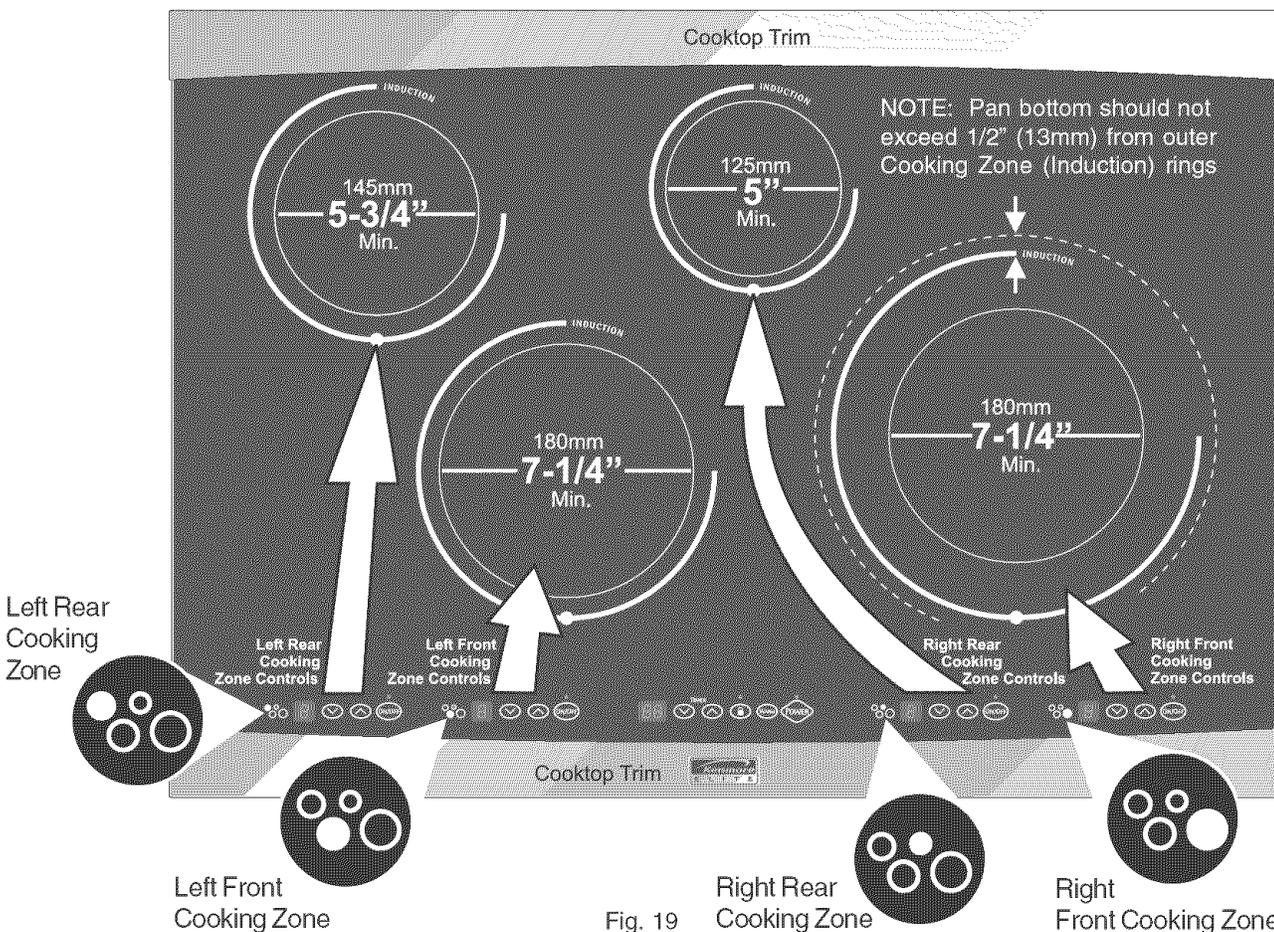

Fig. 19
USE THE CORRECT SIZE COOKWARE - The 4 Cooking Zones available on the Induction Cooktop require a **MINIMUM** pan size to be used at each location (Fig. 19). The inner ring of each Cooking Zone is your guide to the correct **MINIMUM** pan size. The pan bottom must **FULLY** cover the inner ring for proper cooking to occur.
The thicker outer ring at each Cooking Zone is helpful to determine the pan **MAXIMUM** size. After centering the cookware of the cooktop, make sure the cookware does not extend more than 1/2" beyond the thicker line on the Cooking Zone (See example in Fig. 19). The pan must make **FULL** contact on the glass surface without the bottom of the pan touching the metal cooktop trims (Shown in Fig. 19).
- Pan does not meet the minimum size required for the Cooking Zone used (See Fig. 19).
- Pan size meets or exceeds the recommended minimum size for the Cooking Zone (See Fig. 19).
The Induction cooktop has four Cooking Zones designed for cookware of various sizes. Be sure to place cookware that meets the minimum and maximum pan size requirements (Fig. 19) for the Cooking Zone desired and is best for the amount of food being prepared. Place the cookware with the prepared food on the Cooking Zone **BEFORE** setting any of the Cooktop controls.